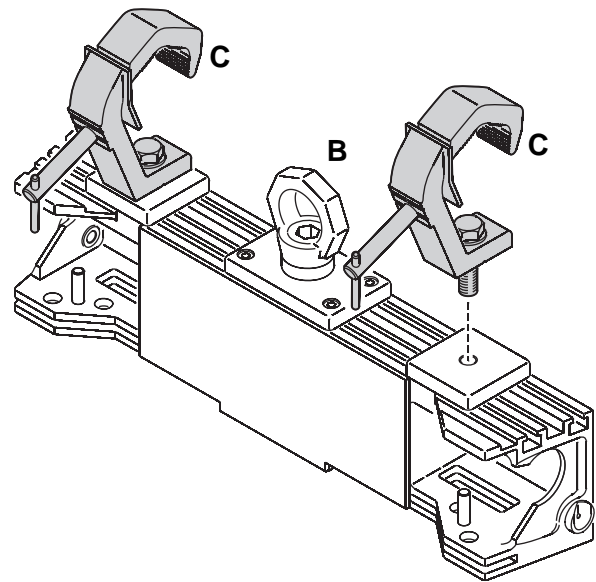

Figure 4: Rigging clamps
If suspending single independent columns of panels one panel wide from a truss, see Figure 4:
1. See Figure 4. Obtain rigging clamps **C** that are approved for the total weight they will support. Fasten two clamps securely to each Header using M12 fasteners that are approved for the total weight they will support.